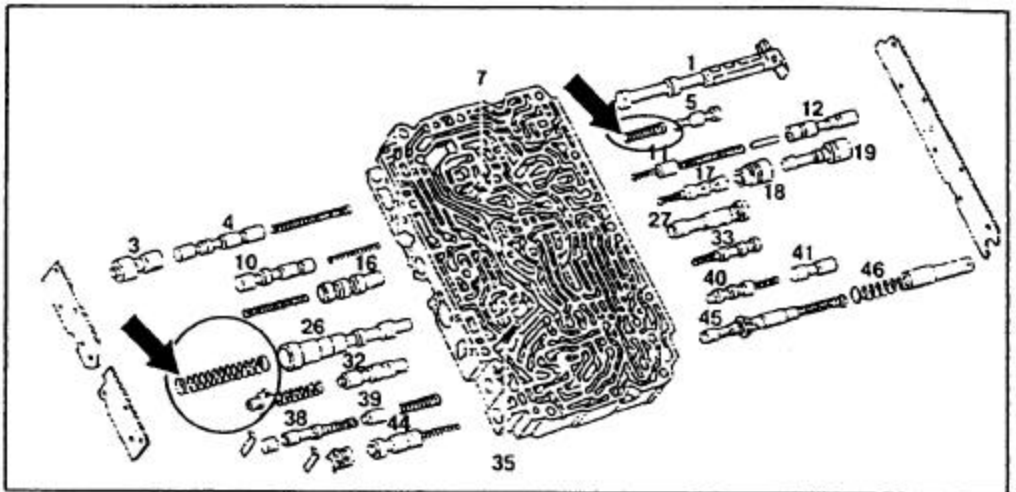

Figure 1
2. If transmission was produced prior to Production Phase-in listed below, remove spring from Control valve converter adaptation (5) in valve body (oval, Figure 1).
3. Install modified spring in Control valve working pressure (26) in valve body (circle, Figure 1). Refer to Parts Information listed below.